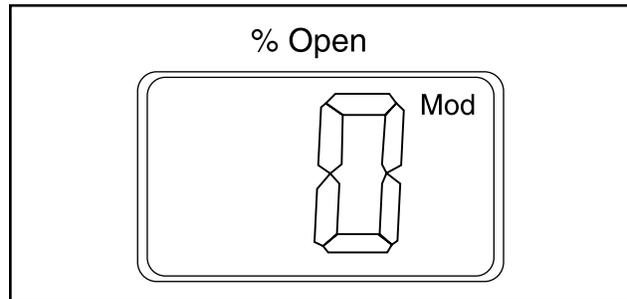

**Figure 23. ICAD Parameter List Display Example**
- Gives access to the Parameter list by keeping the push button activated for 2 seconds. A Parameter list example is shown below (parameter **j08**, Figure 23).